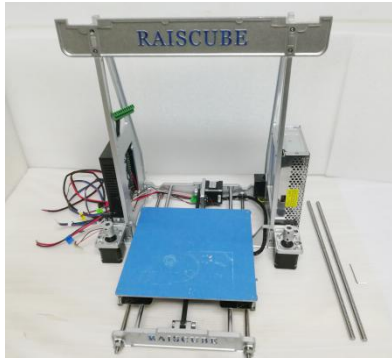
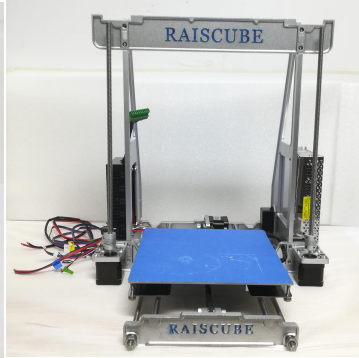
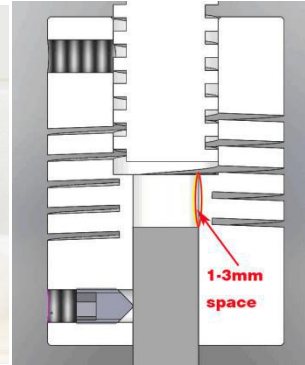

Fig.b25
Fig.b26
Fig.b27
STEP 2-4: Connect 2pcs of 350mm threaded rods to “Flexible Couple” on Z steppers and tighten them by driving set screws. (Fig.b25 to Fig.b26) Please note that there shall be 1-3mm free space between motor shaft and 350 threaded rods. (Fig.b27)